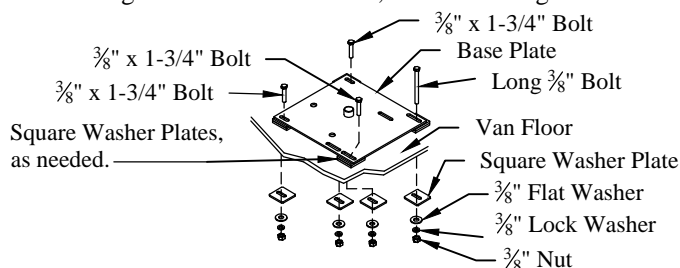

Figure 4: Base plate hardware.
- 9. Bolt** the base plate to the vehicle floor using the hardware provided (Figure 4). To avoid crushing the rear cross member, do not over-tighten bolts.